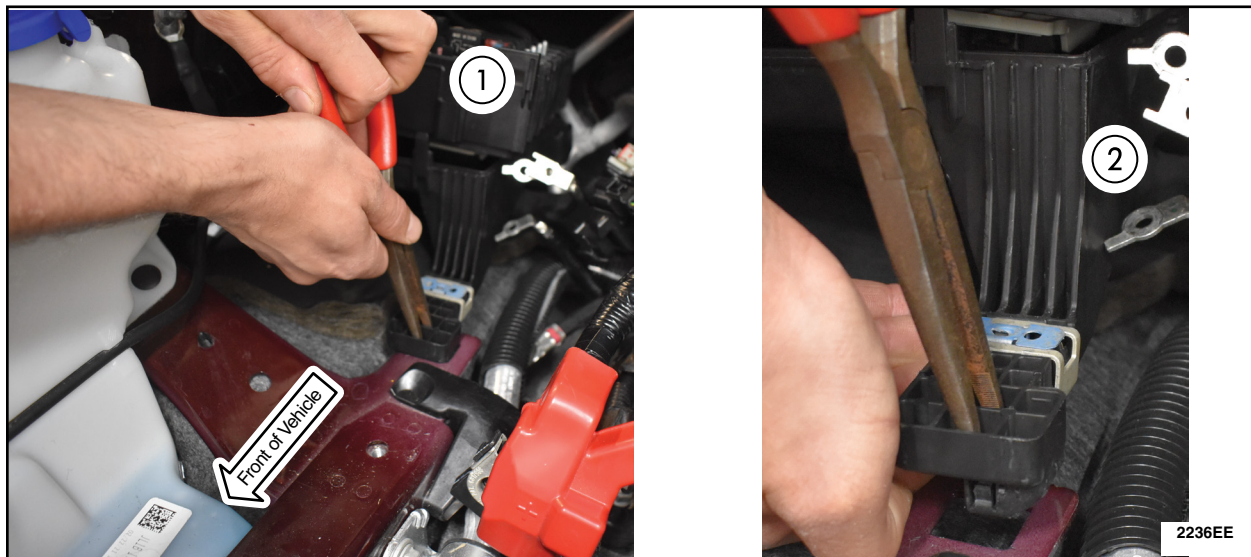

FIGURE 10
11. Release the tab connecting the BJB to the frame. Needle nose pliers will be needed to release the tab. See Figure 10.